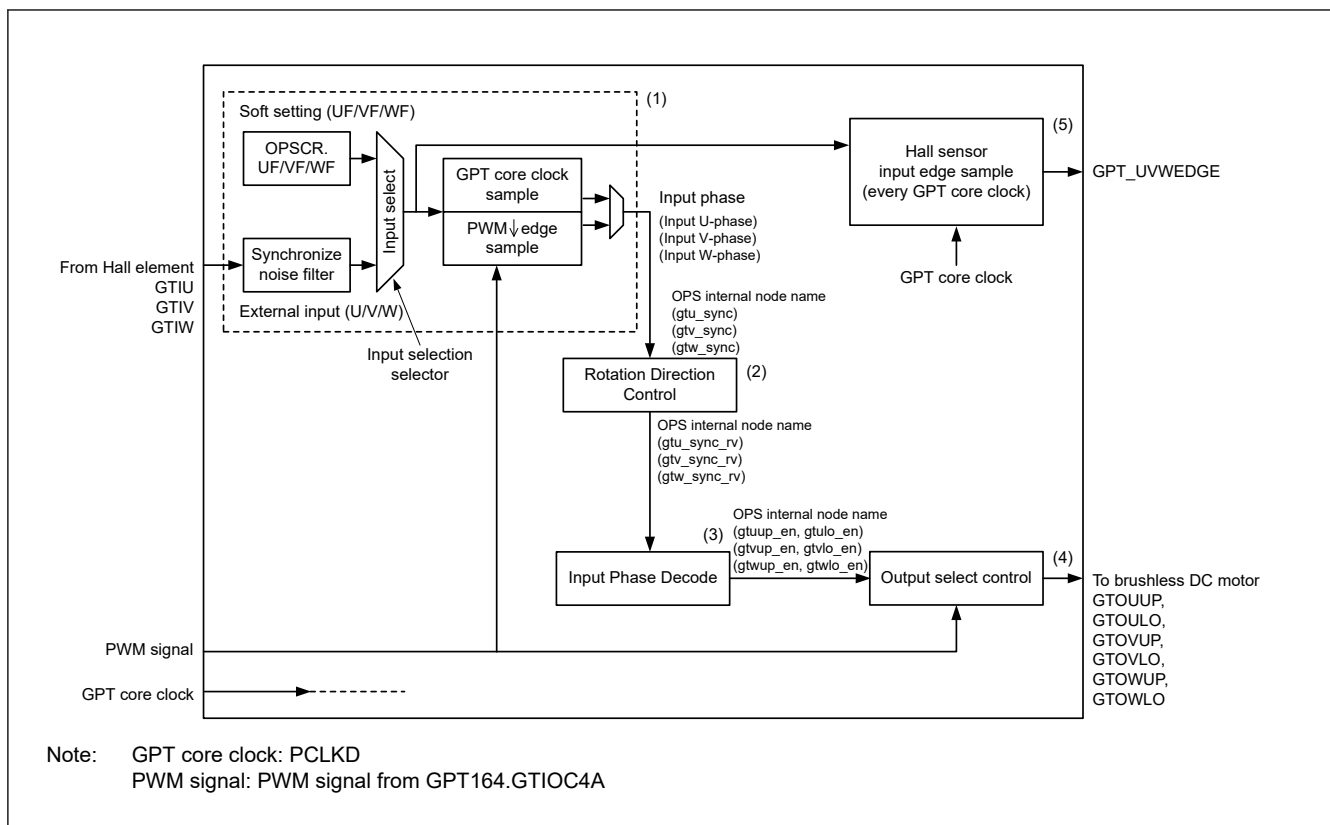

Figure 20.55 Conceptual diagram of GPT_OPS control flow
Figure 20.55 shows the conceptual diagram of GPT_OPS control flow.
In the GPT_OPS control flow conceptual diagram shown in Figure 20.55, (1) is a selection of input phase from the software settings and external input by the OPSCR.FB bit.
In the GPT_OPS control flow conceptual diagram shown in Figure 20.55, (3) enables the 6-phase signals by decoding the input phase selected in the OPSCR.FB bit.
In the GPT_OPS control flow conceptual diagram shown in Figure 20.55, (2) controls the direction of rotation of a 3-phase motor using the OPSCR.RV bit.
In the GPT_OPS control flow conceptual diagram in Figure 20.55, (4) represents the selection of the output waveform by setting the OPSCR register bit.